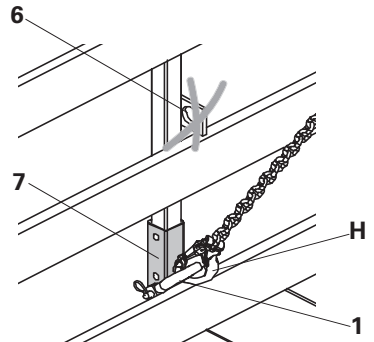

Fig. 8b
Only one Crane Eye CB 240-2 0.7 t may be fixed to each guardrail height extension (7). (Fig. 8b)
2. Attach Hook (H) in the Crane Eye of the Guardrail Post Extension CB 240 (7) with the Crane Eye CB 240-2 0.7 t and secure. (Fig. 8b)